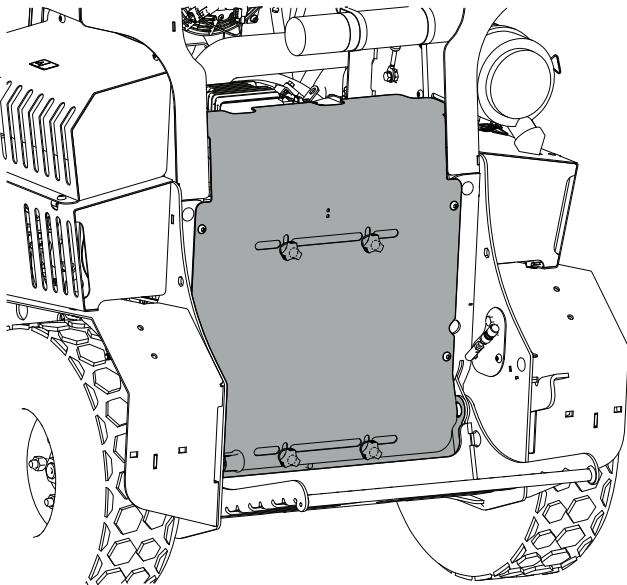

Figure 30
2. Remove the 4 bolts securing the access panel to the machine and remove the panel (Figure 30).